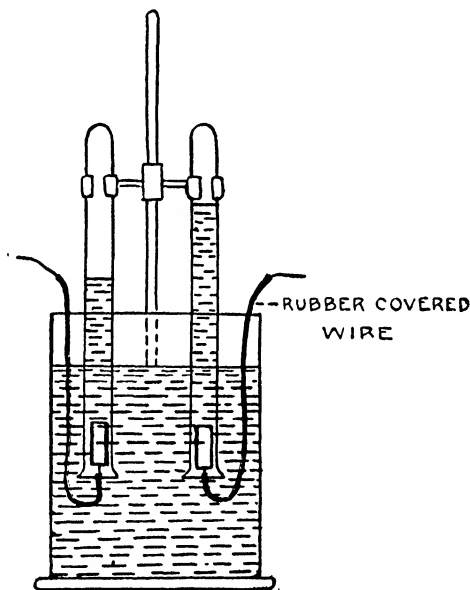

FIG. 85.—Electrolysis apparatus.
7. **Electrolysis of Water.**—Arrange a battery jar, ring stand, clamps and two large test tubes as shown in Fig. 85. Two pieces of platinum foil will be necessary for this experiment, but they may be small. Make a tiny hole in each foil and through it draw a copper wire, bending the end over.